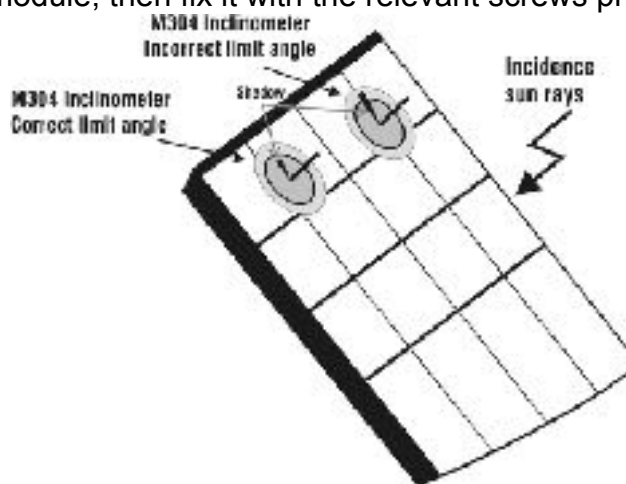

Fig. 7: Positioning the inclinometer M304
9. Mount the rod onto the disc of the optional accessory M304 and keep it in touch with the module's surface. **Make sure that the shadow cast by the rod onto the disc falls within the "limit internal circle" on the disc itself (see Fig. 7).** If this is not the case, the incidence angle between the sun rays and the module surface is too high